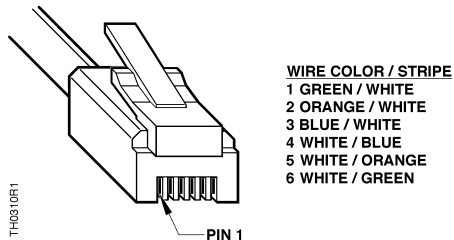

Figure 3. Terminating the RJ-11 Connector.
- If the cable is non-terminated or if the RJ-11 was damaged: Cut the cable, leaving about three inches (75 mm) on the sensor side of the drywall, and attach an RJ-11 connector with an RJ-11 crimping tool. On the RJ-11 connectors, ensure that pin Number 1 connects to the same wire at each end of the cable. See Figure 3. Use the wire nuts supplied to connect the fan switch wires or cables.